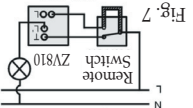

Fig. 7
2. When the sensor switch is in a two way circuit (See Fig. 7), the remote switch acts as a momentary switch. It can only trigger the sensor switch to turn the lights when the slide switch is set to the "AUTO" position. Thus, the two-way circuit will be controlled by the sensor switch.
- To replace a 2 way switch please refer to Fig. 7 for wire a link to the remote switch.